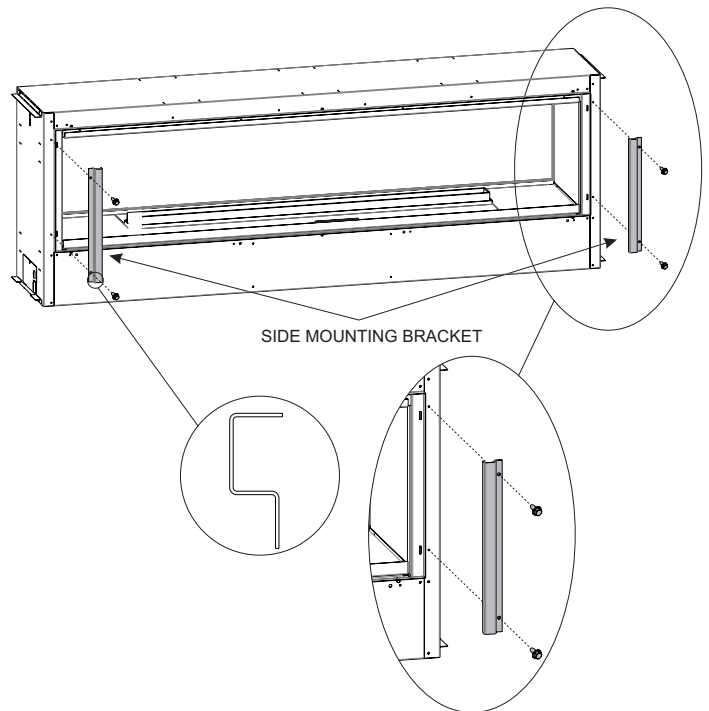

Figure 4
5. Locate side mount brackets shown in **Figure 4** and attach with four provided #10 x 1/2 inch screws as shown.